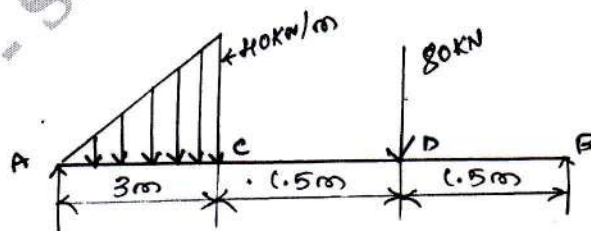

Fig.Q6(b)
- b. A simply supported beam AB of 6m span is loaded as show in Fig.Q6(b). Draw SFD and BMD.